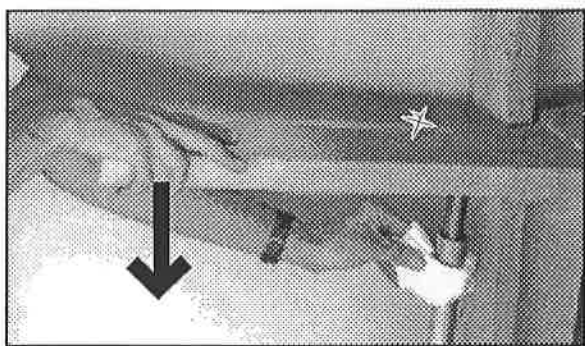

Fig. 13
20. Wrap the area around the seal with an absorbent cloth. Use a lever to press the stanchion into the slider (Fig. 13). This can take a lot of force. As soon as the seal lifts, stop pushing on the stanchion to prevent excess oil from escaping the fork. Be careful not to damage the fork tip or stanchion top when pressing with the lever.